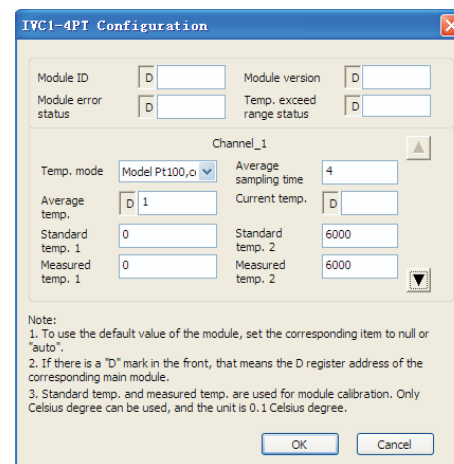
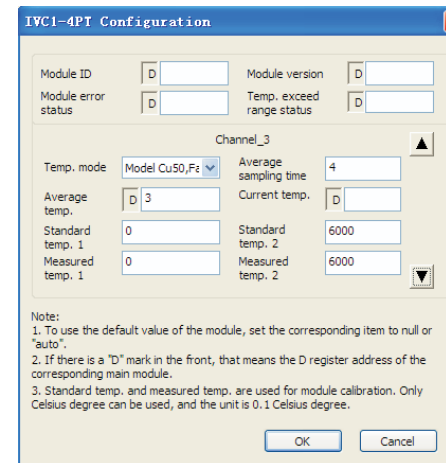

Figure 4-1 Setting CH1
Figure 4-3 Setting CH3
11. BFM#4094: module software version, displayed automatically as **Module Version** in **IVC1-4PT Configuration** dialogue box of the host software, as shown in Figure 4-1.
Example: The IVC1-4PT module address is 0. Connect CH1 to Pt100 thermal resistance to output Celsius data, CH2 to Cu100 thermal resistance to output Celsius data, CH3 to Cu50 to output Fahrenheit data and close CH4. Set the average sampling times to 4, and use data registers D1, D2 and D3 to receive the average value. See Figure 4-1 ~ Figure 4-3 for the setting method. For further details, see *IVC Series PLC Programming Manual*.